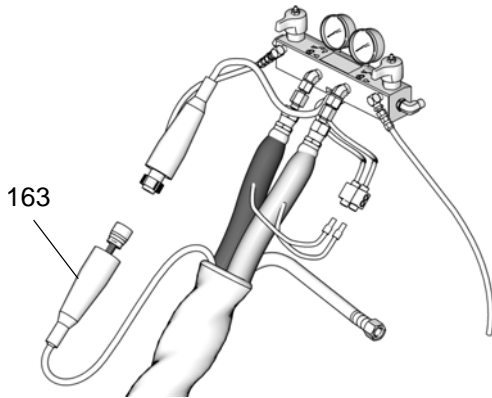

**FIG. 71: Heated Hose Electrical Junction Box**
2. Remove cover (71). See FIG. 71.
3. Disconnect system wires (139) from the proportioner.
4. Disconnect hose wires from terminal block (AS).